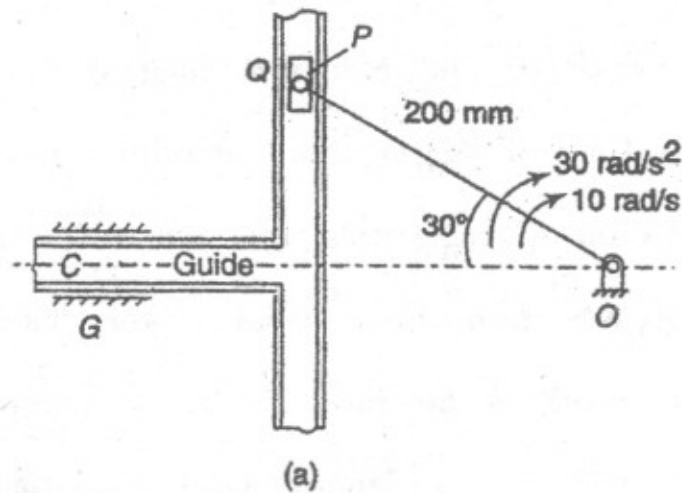

Fig. 4
- (b) Fig. 4 shows a Scotch-Yoke mechanism. At the instant, shown in Fig., the crank OP has an angular velocity of 10 rad/sec. and angular acceleration of 30 rad/sec². Determine the acceleration of slider 'P' in the guide and